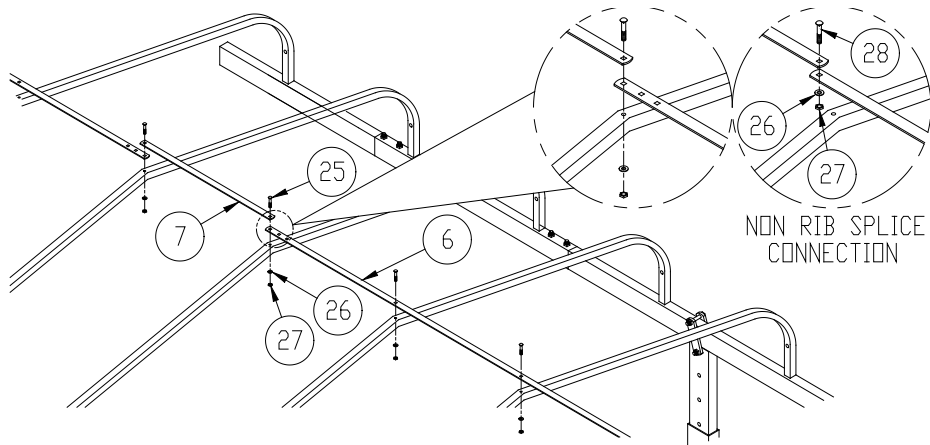

**Figure 2-5.**
5. Refer to **Figure 2-5**. Attach each canopy end cap to the side stringers using hardware shown for each corner connection. Before tightening hardware, square the canopy frame by placing a carpenter or combination square into each corner and positioning canopy stringers and end caps to provide a 90 degree corner joint. Tighten hardware to lock into position.